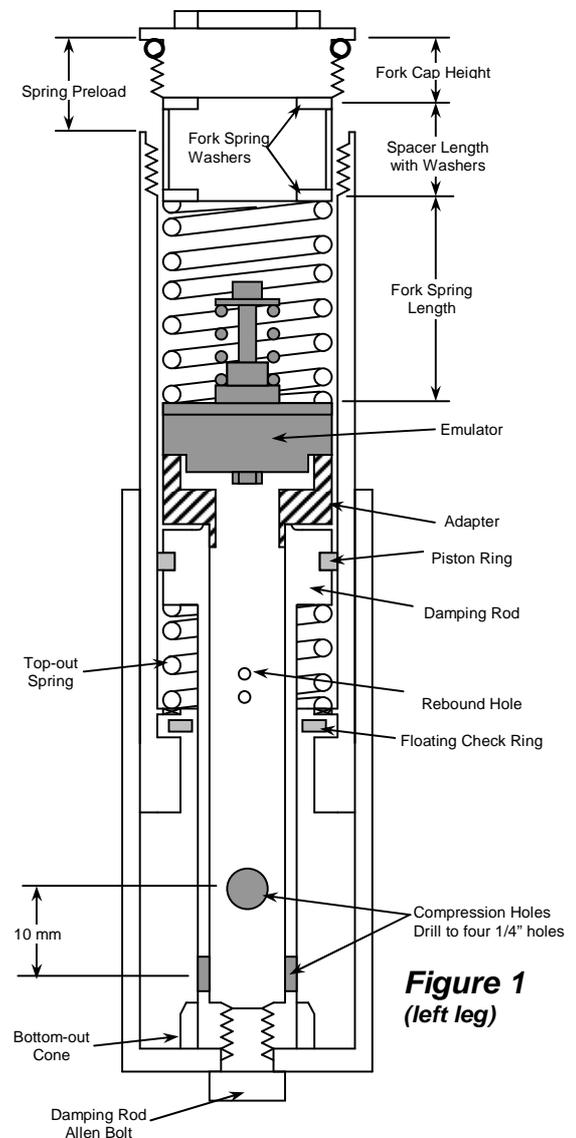

Figure 1
- 2 **Drill the existing compression holes in both damping rods to 1/4 inch (6 mm) and add two holes so you end up with four holes (2 sets of 2 holes) (figure 1).** When drilling new holes, space them axially (lengthwise) at 10 mm (7/16") increments. Each set of two holes must be perpendicular to the last set so as not to weaken the rod (figure 1). After drilling, chamfer and deburr the compression holes, inside and out. **Do not add or enlarge the rebound hole and leave its edge sharp.**
If you are unsure if the rods and tubes have been mixed up, completely disassemble the forks. The Damping Rod with the Piston Ring will be matched with the fork tube with the Floating Check Ring in the bottom of the tube (Figure 1). This leg will get the Emulator. The Rod without the Piston Ring will be matched with the fork tube without the Check Ring (Figure 2). It does not get the Emulator.
- Drop the Adapter then the Emulator down the tube. They sit on top of the damping rod with the Emulator Valve Spring facing up and are held in place with the main fork spring. Refer to figure 1. Visually check to make sure the Emulator is sitting squarely on top of the adapter.
- Set the fork cap on the washer and determine the preload by measuring from the top of the fork tube to the sealing lip on the fork cap (see figure 1). This is a direct measurement of fork spring preload. Shorten the spring spacer tube to achieve the proper preload.